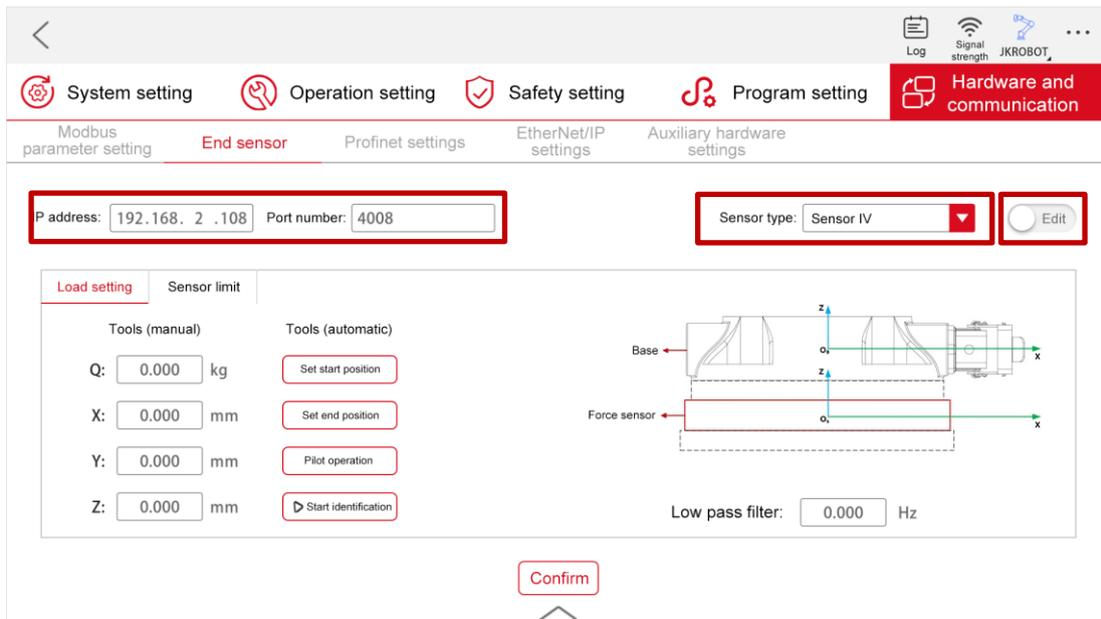

Figure 3-18 Sp System Configuration Interface (IV Base Type)
- f. As shown in Figure 3-18, tap [Settings] at the upper right of the Home page, and then tap [Hardware and communication] → [End sensor] to enter the sensor configuration interface;